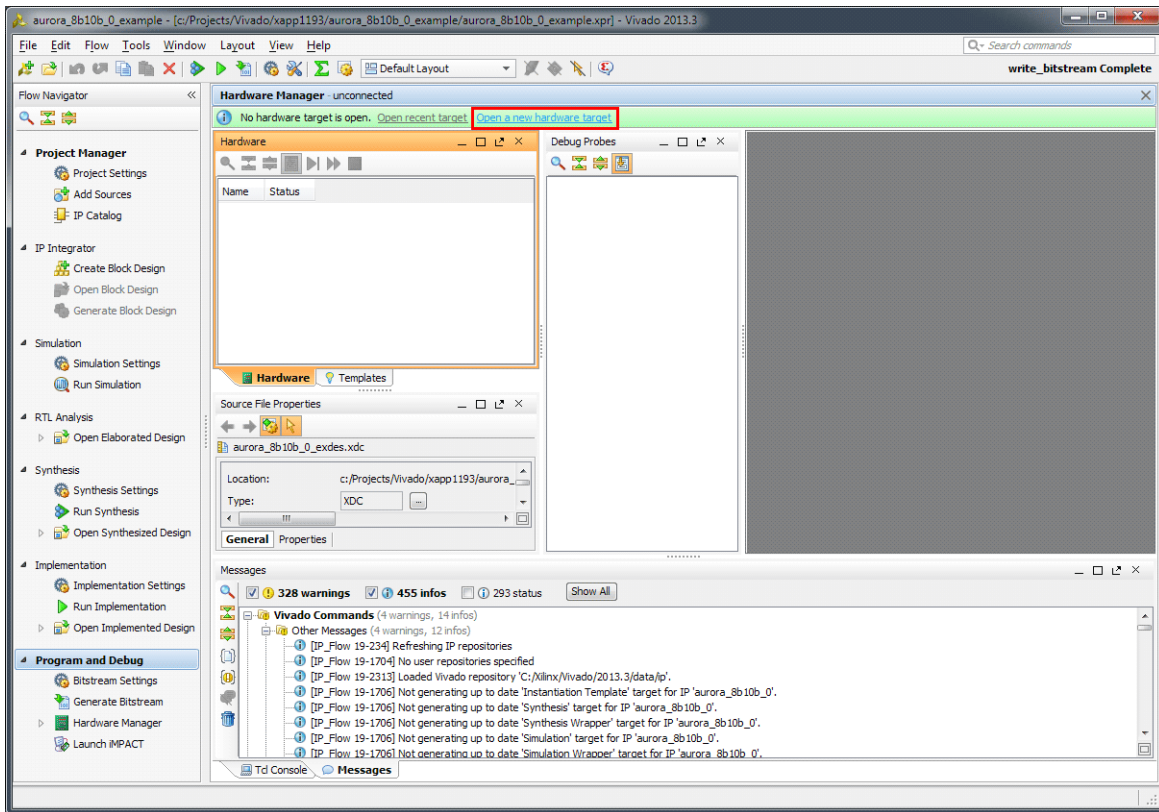

Figure 30: Open a New Hardware Target
- At the top of the Hardware Manager panel, click **Open a new hardware target** (Figure 30) and click **Next**.